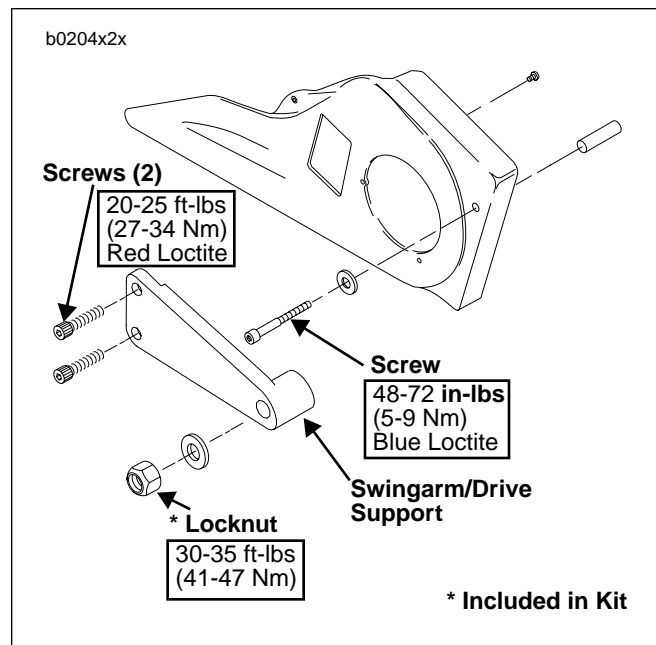

Figure 1. Sprocket Cover
6. See Figure 1. On the right side of the motorcycle, remove the front sprocket cover (and remove fairing lower hardware on S3T models). See appropriate service manual, Section 2 for procedure.